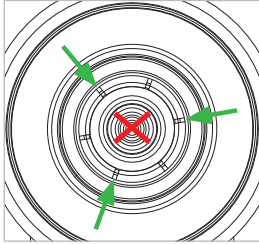

Figure 15
- ▶ Spray once briefly using the small dispensing tube between every second clamping jaw (Figure 15).
Attention: The lubricant must not be allowed to enter the gas channel (Figure 15).